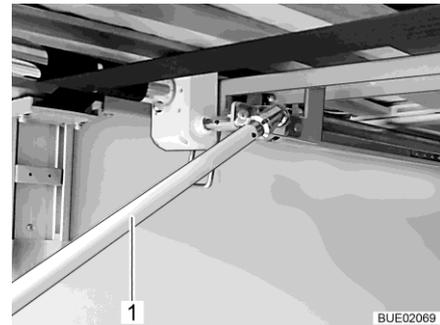

Fig. 143 Crank in the rear garage
- To lift the bed: Turn the crank (Fig. 143,1) clockwise.
To lower the bed: Turn crank (Fig. 143,1) in an anticlockwise direction.